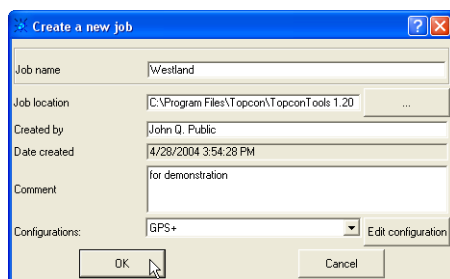

Figure 2-3. Create A New Job
- Enter the following information (Figure 2-3):